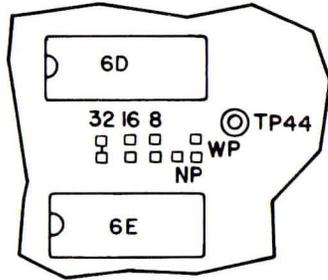

FIGURE 3-19. SECTOR AND WRITE PROTECT
1. Cut away trace 32 located between 6D and 6E. See Figure 3-19.
1. Cut away trace WP located near 6D. See Figure 3-19.